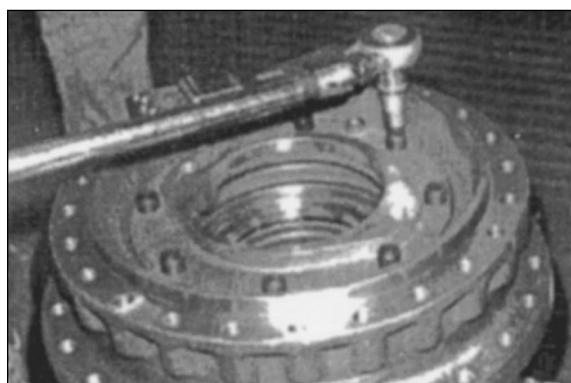

Figure 127
36. Tighten motor flange to hub. Figure 127.